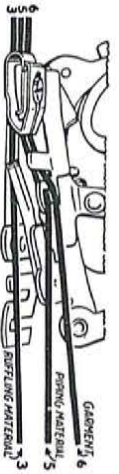

Fig. 70. Correct Positions for Materials
1. Insert material to be ruffled between two blue blades from the right (Line 3, Fig. 70). This material must not exceed 1 1/4 inches in width.
Place piping material in ruffler, following Line 5, Fig. 70 with folded edge of piping to right.
3. Fold edge of material to which piping and ruffling are to be attached and insert it in ruffler, from the left following Line 6, Fig. 70.